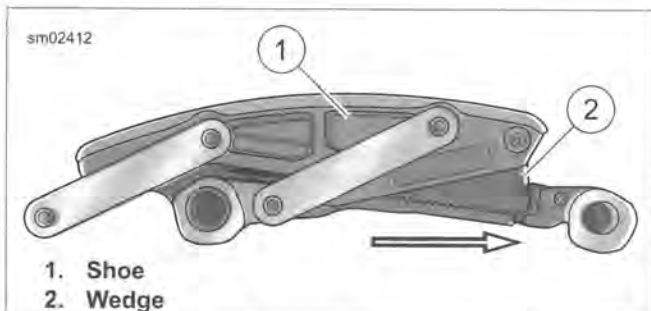

Figure 5-16. Primary Chain Tensioner
- See Figure 5-16. Slide wedge of primary chain tensioner in direction of arrow until all travel is removed.